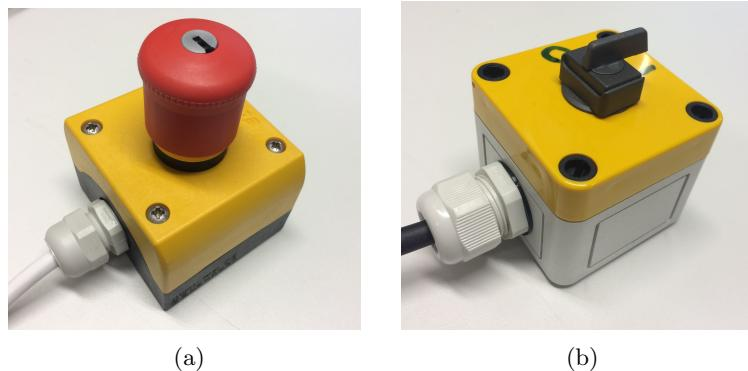

Figure 2.3: Complete power off emergency button (a); The button to shut-down VSI switching legs (b).
**IMPORTANT! There are two buttons per each set-up. The emergency button depicted in Figure 2.3 (a) is used to switch off the power of all set-ups in the**
laboratory room completely. Make sure the emergency button is placed on the table where you can reach it easily. Please remember that it can also be used when something goes wrong with the set-up of your neighbours. The second button (Figure 2.3 (b)) is used to turn-off the switching legs of the inverters, but does not act as a total system shut-down emergency stop.